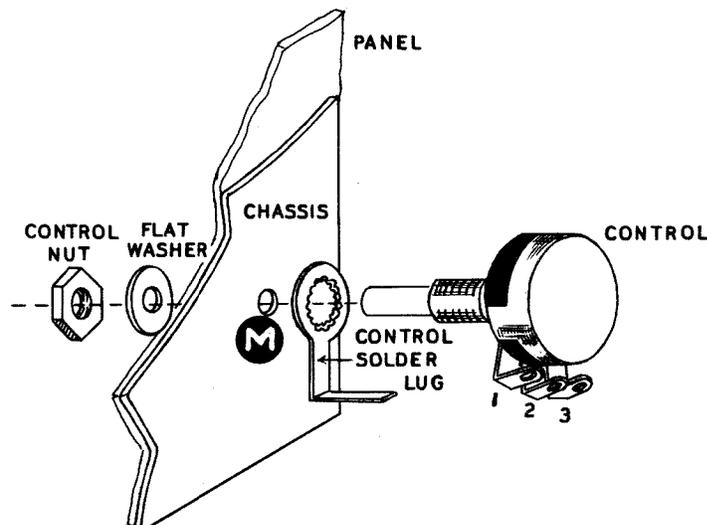

Figure 4
- (N) Take the control solder lug, bend and form as shown in Detail 2 and cut off $3/8$ ". Place the solder lug on the control and insert the control through hole (M) of the chassis and then through the front panel. Place a $3/8$ " flat washer and a $3/8$ " nut on the front. See Figures 4 and 5. Do not tighten. Line the control solder lug up with terminal #1 (S).